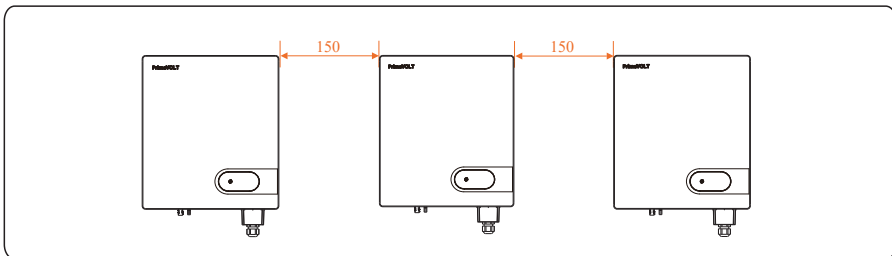
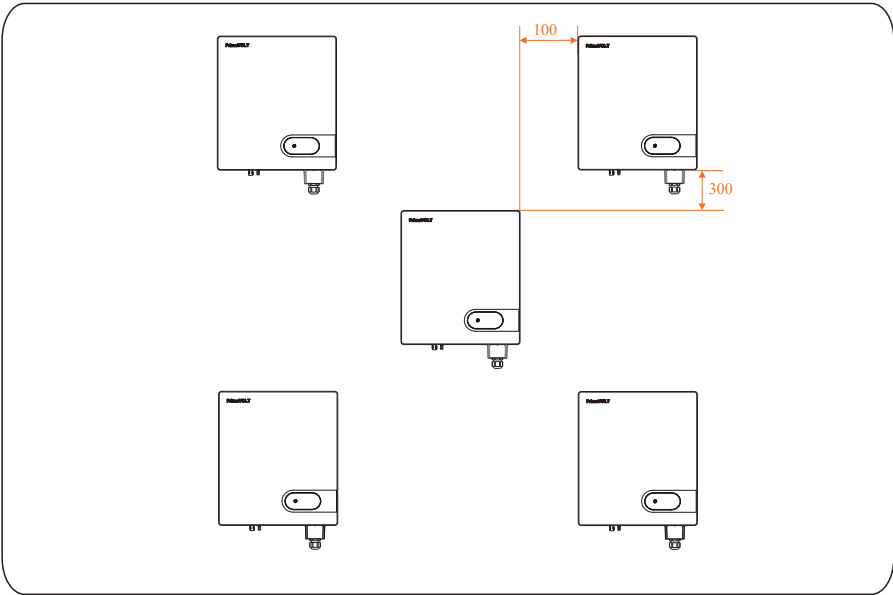
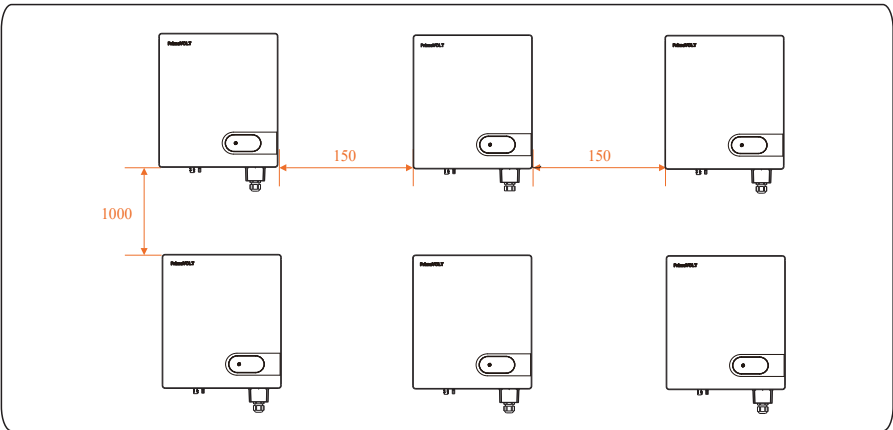

Figure 4.5 Installation along the same line (unit: mm)
Figure4.6 Installation in triangle mode (unit: mm)
Figure4.7 Installation in stacked mode (unit: mm)
c. When installing multiple inverter, install them along the same line (as shown in Figure 4.5) if sufficient space is available, and install them in triangle mode (as shown in Figure 4.6) or in stacked mode (as shown in Figure 4.7) if no sufficient space is available. The installation modes ensure sufficient space for installation and heat dissipation.